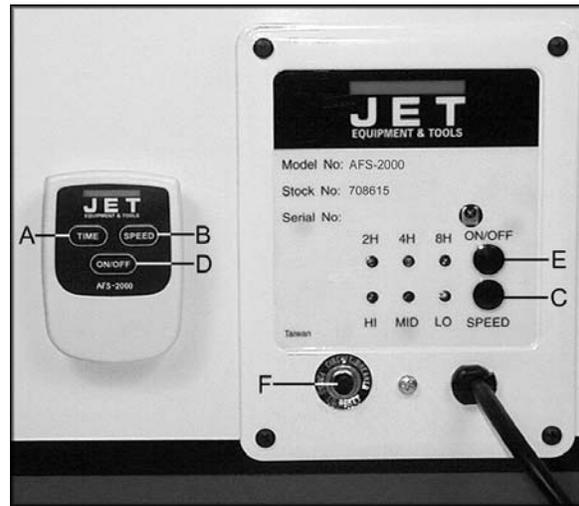

Figure 3
**Time** button (A, Figure 3) controls the three different settings.
**Speed** button (B, Figure 3) controls the three different settings; Low, Medium and High. There is also a manual button (C, Figure 3) on the backside of this unit which controls the speed.
**On/Off** button (D, Figure 3) turns the unit on and off. There is also a manual on/off button (E, Figure 3) on the backside of the unit. Pressing this button will turn the machine on Low.
**Overload** reset switch (F, Figure 3) will pop in the case of overload. Wait 3-5 minutes and press the reset switch.